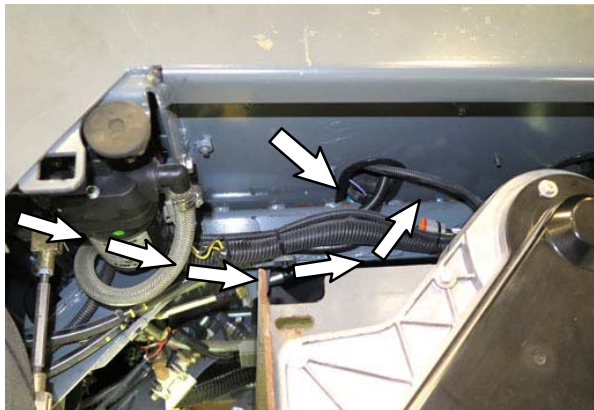

**FIG. 7**
4. Route the battery cable (14) to the shunt (9). (Fig. 7)